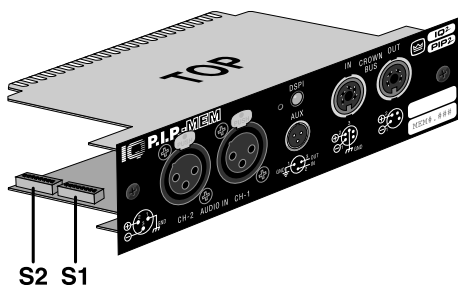

Fig. 4.3 Input Switch (S1, S2) Location
2. **Set the input switches S1 and S2.** Each input can be configured for either line-level or microphone-level signals with an 8-segment DIP switch. Phantom power is also available. Switches S1 and S2 (see Figure 4.3) are located on the left side of the lower circuit board. The table in Figure 4.4 shows how to set each switch.